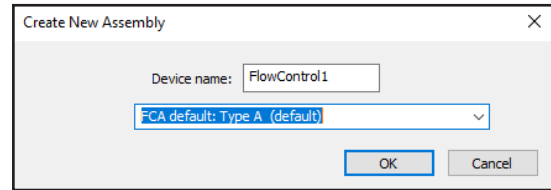

Fig. 6
- 5) Name the flow controller, and select the appropriate type from the dropdown menu (Fig. 6).